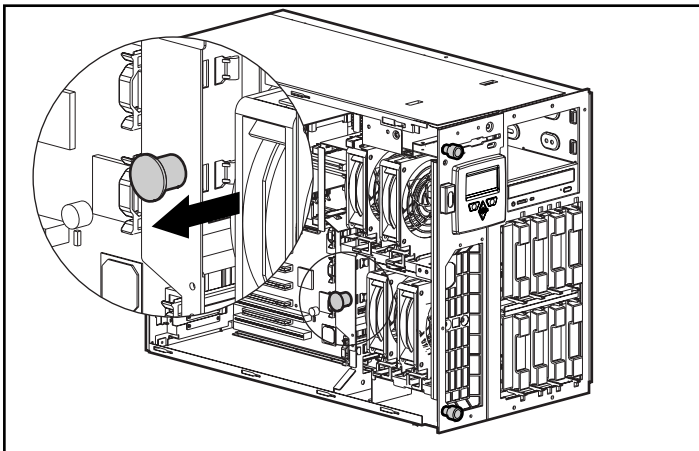

Figure 4-13. Drive cage latch
5. Pull out the latch at the back of the drive cage (shown in Figure 4-13) and pull out the drive cage 2 to 3 inches to allow better access to cables.